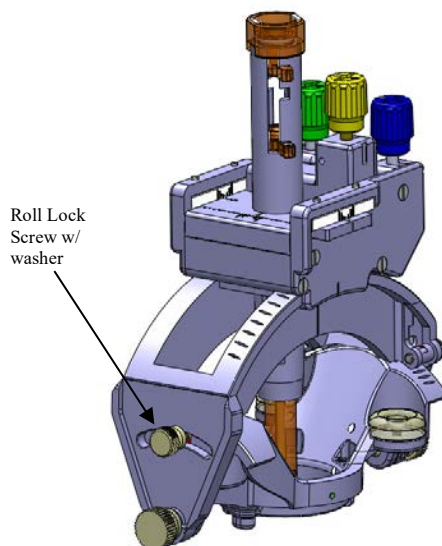

Figure 6: Roll Lock Screw w/ washer
10. Remove the Roll Lock Screw w/ washer from the SMARTFrame XG package to pre-mount in SMARTFrame XG. Screw in partially to the appropriate location on the SMARTFrame XG. **See Figure 6.** Ensure the Roll Lock Screw w/ washer is not tight. This screw will be tightened later in the procedure.
6. The Roll Lock Screw w/ washer must be tightened after the final roll adjustment is complete. **See Figure 6.** The Roll Lock Screw w/ washer must be loosened, for subsequent roll adjustments.
17. The Roll Lock Screw w/ washer must be tightened after the final roll adjustment is complete. **See Figure 6.** The Roll Lock Screw w/ washer must be loosened, for subsequent roll adjustments.